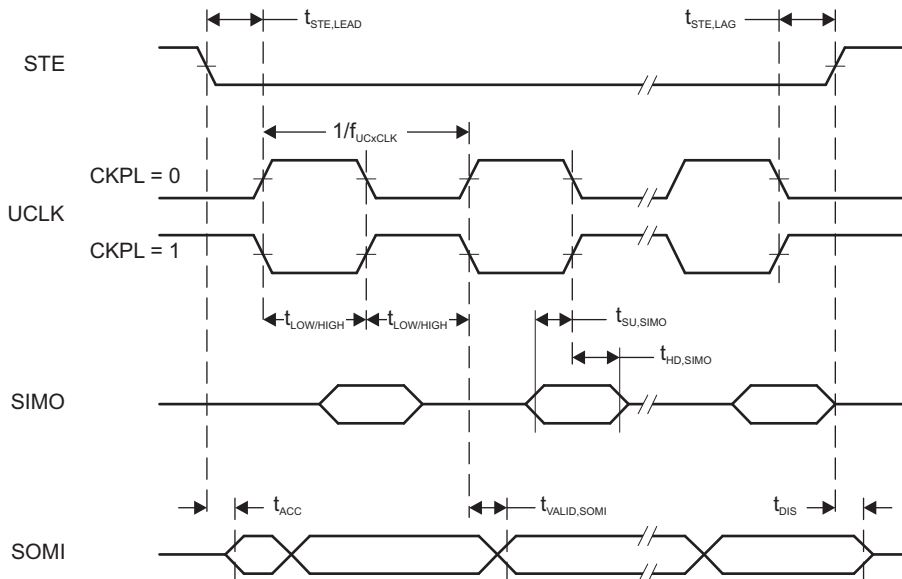

Figure 5-14. SPI Slave Mode, CKPH = 0
- (2) Specifies the time to drive the next valid data to the SOMI output after the output changing UCLK clock edge. Refer to the timing diagrams in Figure 5-14 and Figure 5-15.
- (3) Specifies how long data on the SOMI output is valid after the output changing UCLK clock edge. Refer to the timing diagrams in Figure 5-14 and Figure 5-15.